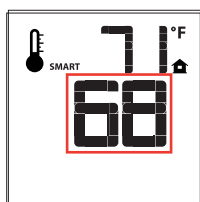

Figure 33- Remote Control Displaying Smart Thermostat Function
1. To activate this function, press the Thermostat key until the word "SMART" appears to the right of the temperature bulb on the LCD screen (see Figure 33).